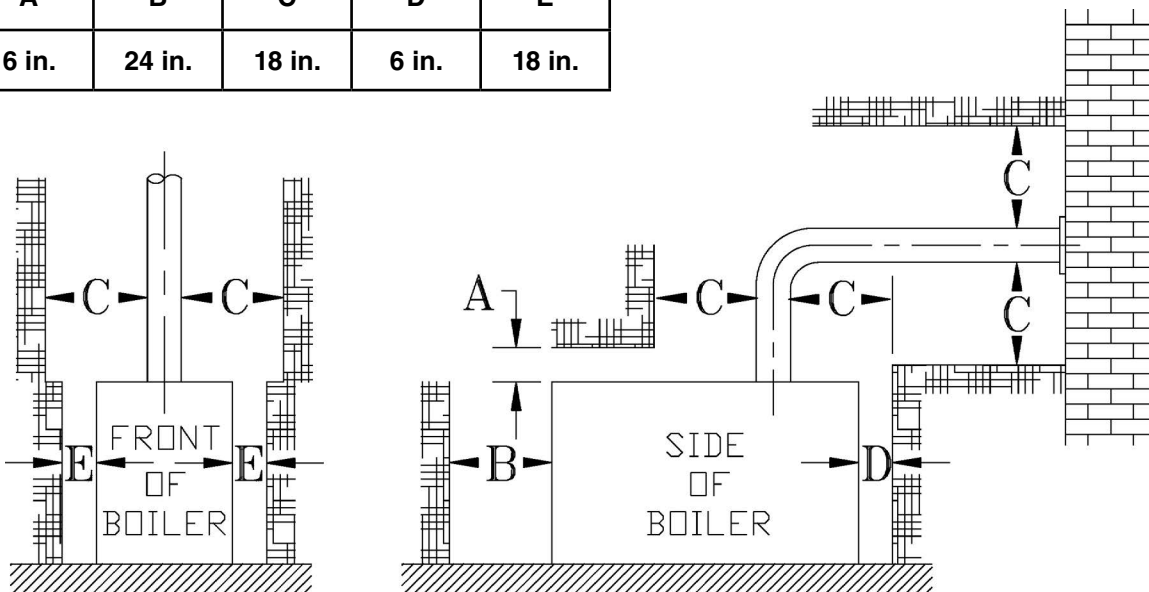

Figure 2-1: Minimum Installation Clearances To Combustible Materials (Inches)
4. For minimum clearances to combustible materials. See Figure 2-1.